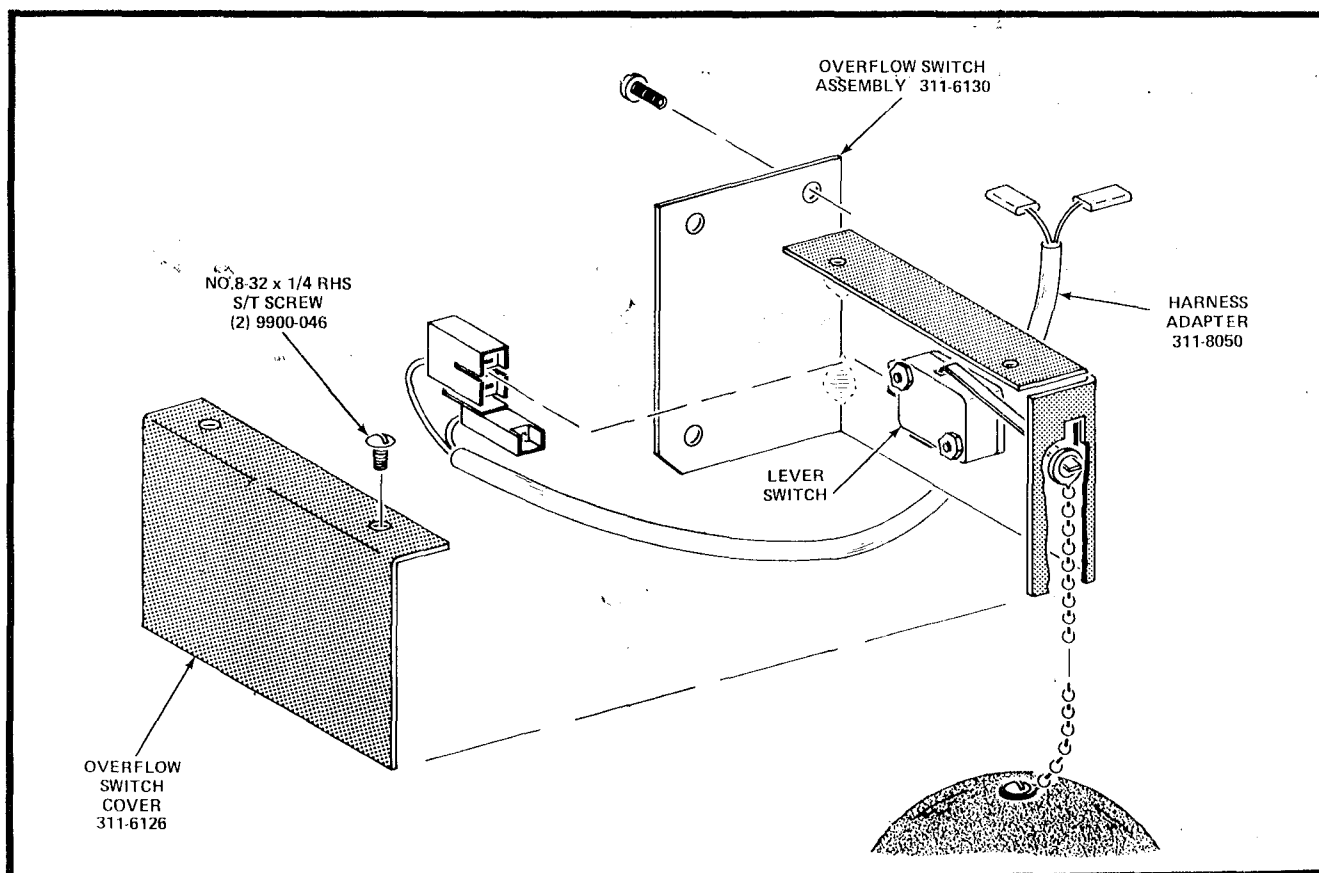

FIGURE 4
7. Connect the 3-Circuit Switch Receptacle end of the Harness Adapter, Part Number 311-8050, included in the Kit, to the prongs of the Lever Switch on the Overflow Switch Assembly, Part Number 311-6130, included in the Kit. See Figure 4.
8. Install the Overflow Switch Cover, Part Number 311-6126, included in the Kit, on the Overflow Switch Assembly with two No.8-32 x 1/4 RHS S/T Screws, Part Number 9900-046, included in the Kit. See Figure 4.
3. Connect the 3-Circuit Switch Receptacle end of the Harness Adapter, Part Number 311-8050, included in the Kit, to the prongs of the Lever Switch on the Overflow Switch Assembly, Part Number 311-6130, included in the Kit. See Figure 4.
4. Install the Overflow Switch Cover, Part Number 311-6126, included in the Kit, on the Overflow Switch Assembly with two No.8-32 x 1/4 RHS S/T Screws, Part Number 9900-046, included in the Kit. See Figure 4.
11. Connect the 3-Circuit Switch Receptacle end of the Harness Adapter, Part Number 311-8050, included in the Kit, to the prongs of the Lever Switch on the Overflow Switch Assembly, Part Number 311-6130, included in the Kit. See Figure 4.
12. Install the Overflow Switch Cover, Part Number 311-6126, included in the Kit, on the Overflow Switch Assembly with two No.8-32 x 1/4 RHS S/T Screws, Part Number 9900-046, included in the Kit. See Figure 4.
13. Position the Overflow Switch Assembly, over the three holes drilled in steps 9 and 10, and attach using three No.8 x 3/8 PHS S/LW Sheet Metal Screws, Part Number 404-7057; included in the Kit. See Figure 4 and 6.